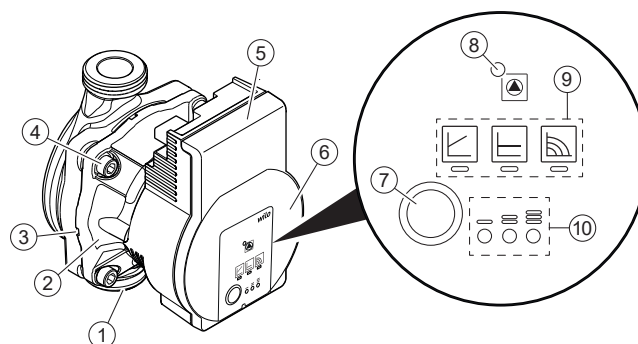

Figure A2-1: Pump components and control panel
- Run/Fault signal LED (item 8, Figure A2-1)
- Control mode display LEDs (item 9, Figure A2-1)
- Pump curve display LEDs (item 10, Figure A2-1)
Operating button - Green (item 7, Figure A2-1)
The Run/Fault signal LED (item 8, Figure A2-1) will indicate if there is a fault with the pump and can assist in diagnosing and rectifying that fault as detailed in Table A2-3 below: